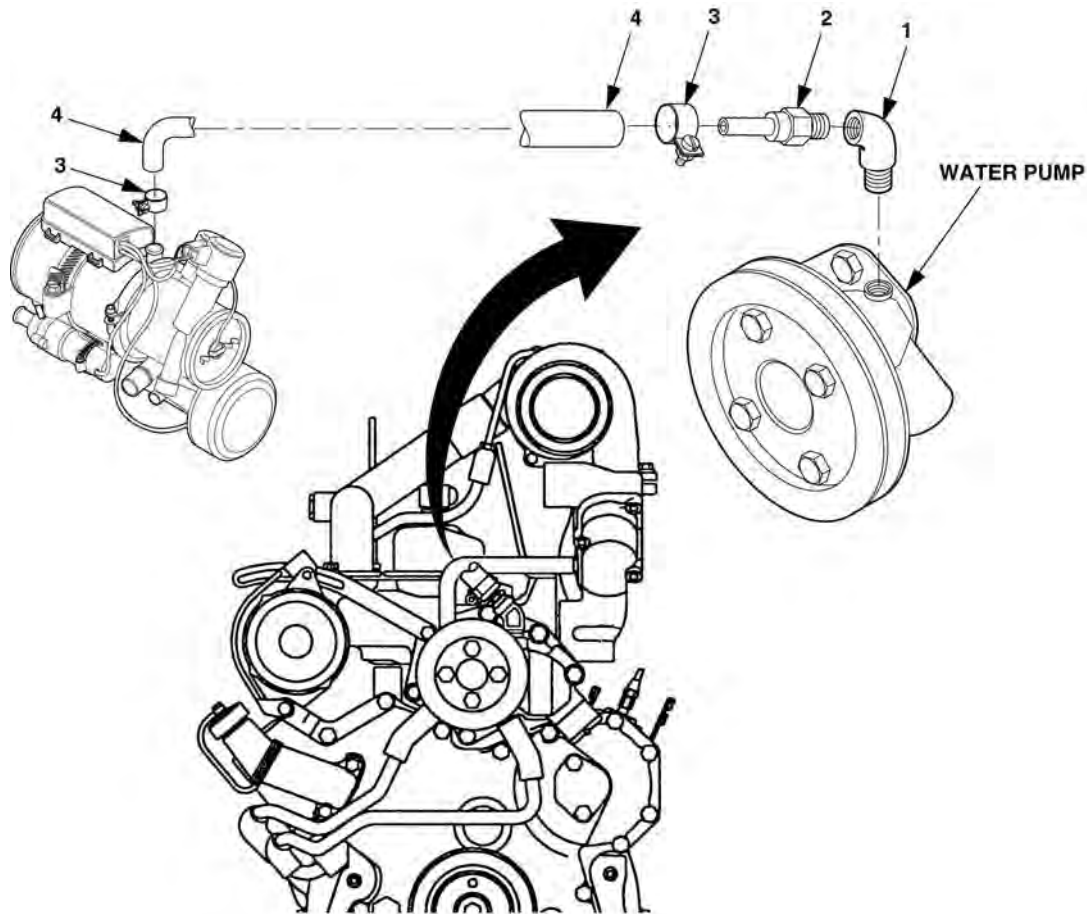
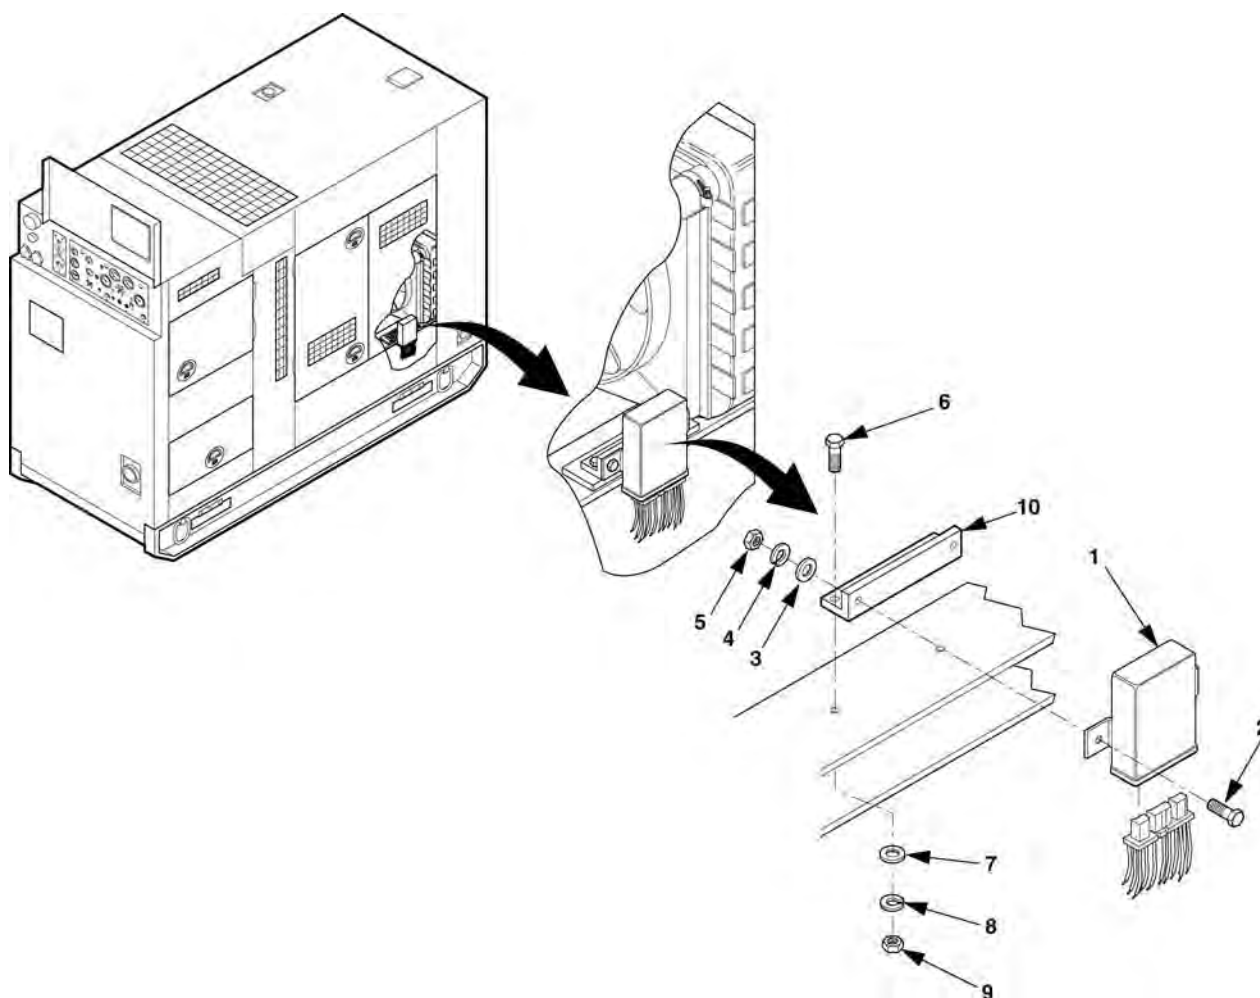

Figure 5-5. Coolant Outlet Hose Assembly.
Figure 5-6. Control Unit Assembly.
14. Remove plug from water pump and install elbow (1), Figure 5-5, and adapter (2).
15. Install coolant hose, (4), to adapter (2) using clamp, (3).
16. Using angle bracket (10), Figure 5-6, as a template, mark hole locations and drill 7/32" diameter holes in radiator support.
17. Install control unit bracket (10), Figure 5-6, using screws (6), flatwashers (7), lockwashers (8), and nuts (9), and then install control unit (1), using screws (2), flatwashers (3), lockwashers (4), and nuts, (5) to control unit bracket.